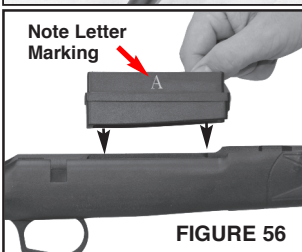

FIGURE 56
Step 7: Be sure that you have installed the correct magazine housing into the stock for the letter series of caliber that you intend to use (FIGURE 56).